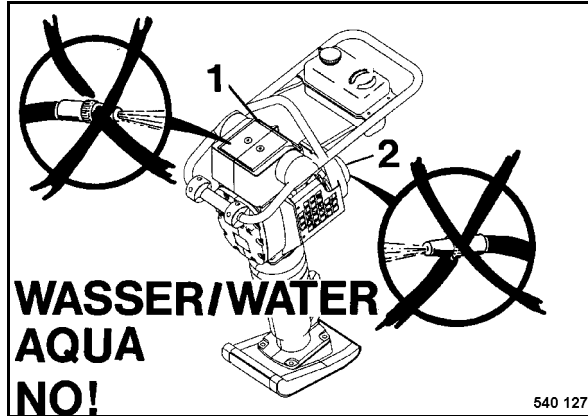

Fig. 31
- Do not guide the water jet directly into the air filter 1 (Fig. 31) and into the starter/air intake (2).